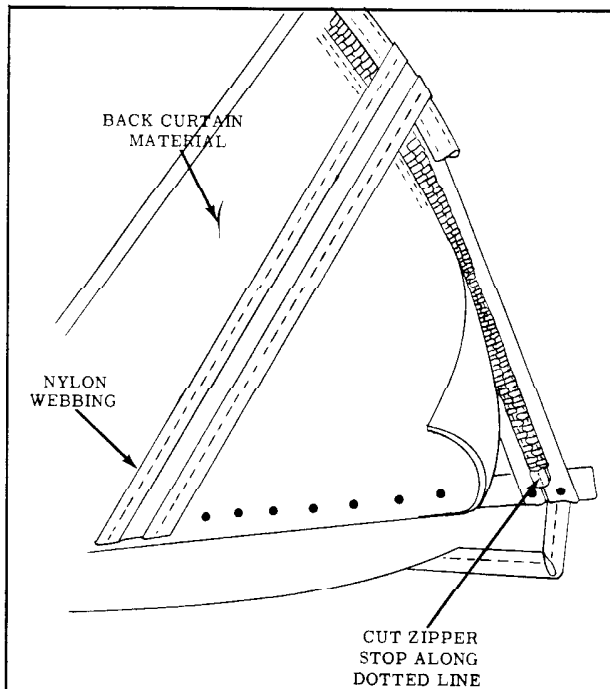

Fig. 15-108 Back Curtain Vinyl Replacement
9. Using a pair of wire cutting shears or other suitable tool, cut zipper stop along dotted line and remove both halves of stop from zipper. (Fig. 15-108)